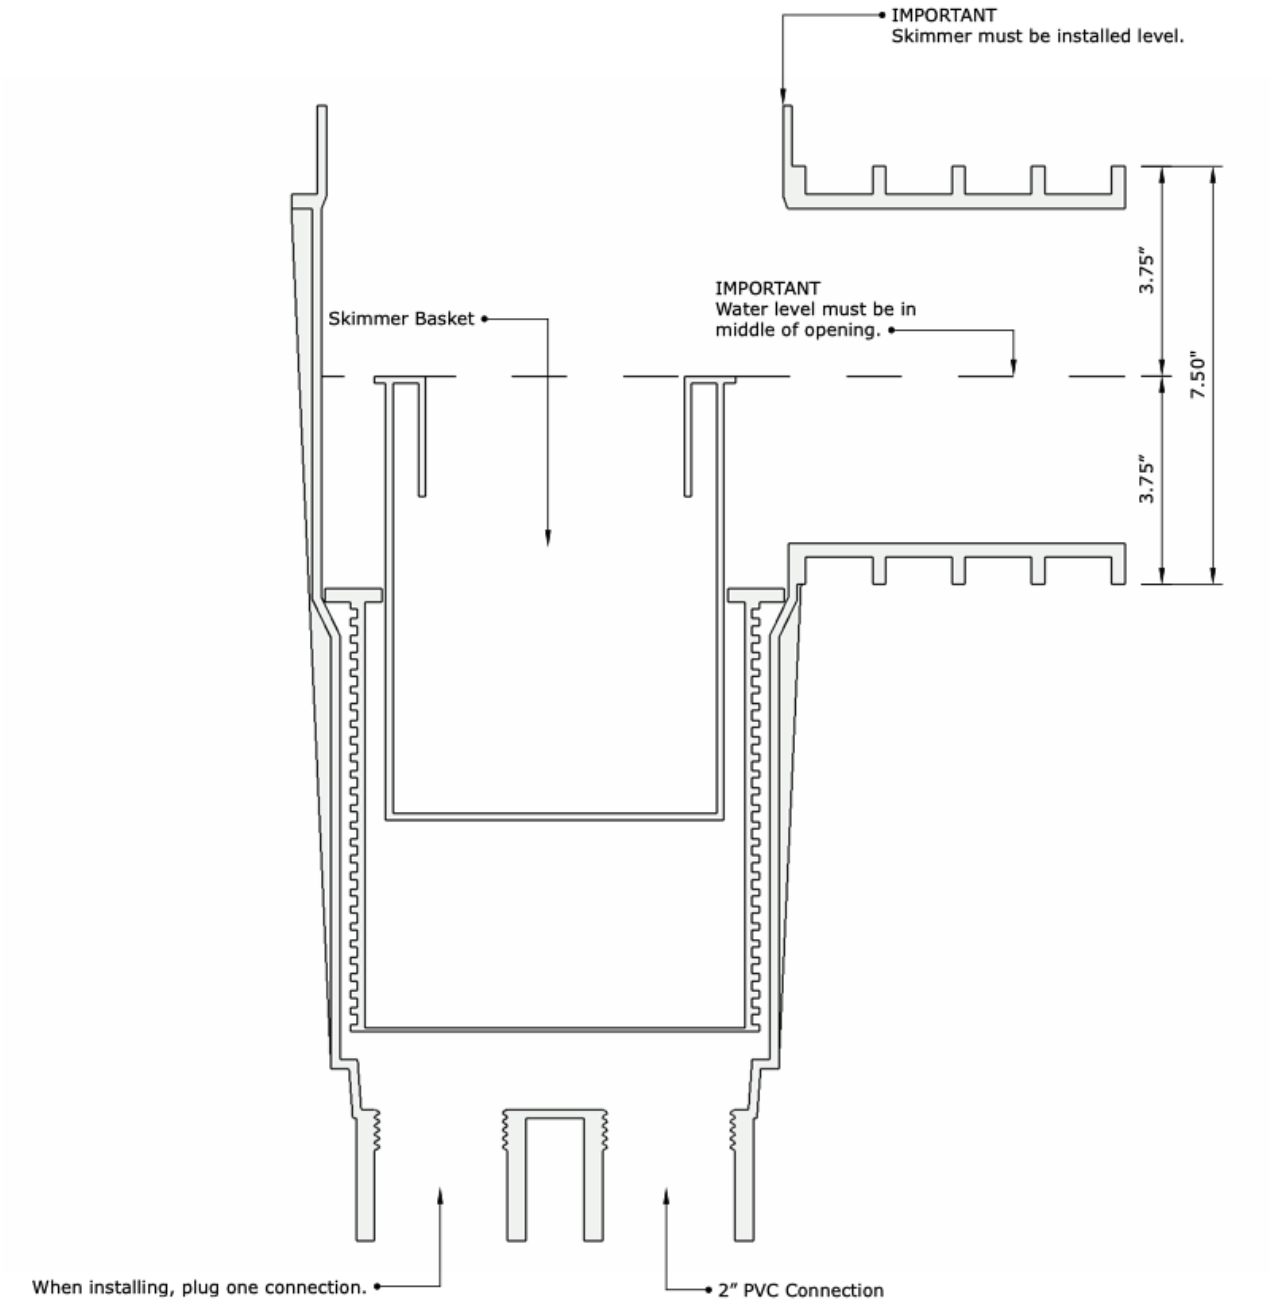

Figure 2: Side View
Line Connections and Testing: Connect pump inlet line to rear port in bottom manifold (Figure 2). Skimmer is ABS plastic. For threaded connections, do not use pipe dope; to seal joint use threaded seal tape for slip connections, apply PVC primer to PVC pipe only. Then apply ABS to PVC solvent cement to both pipe and slip connections. Consult dealer for correct solvent cement for pipe used. Assemble joint per cement manufacturer's instructions. Allow at least three (3) hours before pressure testing.